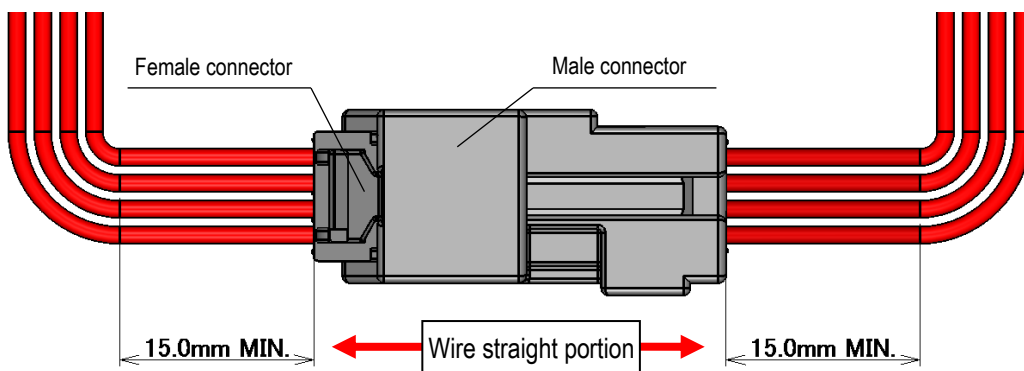

Fig.51 Arrangement of wires
- ① When arranging the wires to sideways, keep the wires in straight (at least 15mm) from the connector to avoid excessive stress to the housing sidewalls and terminals or the terminal leaning inside the housing as shown in Fig.51.
- ② Once straight portion is secured, arrange the wires with adequately large R.